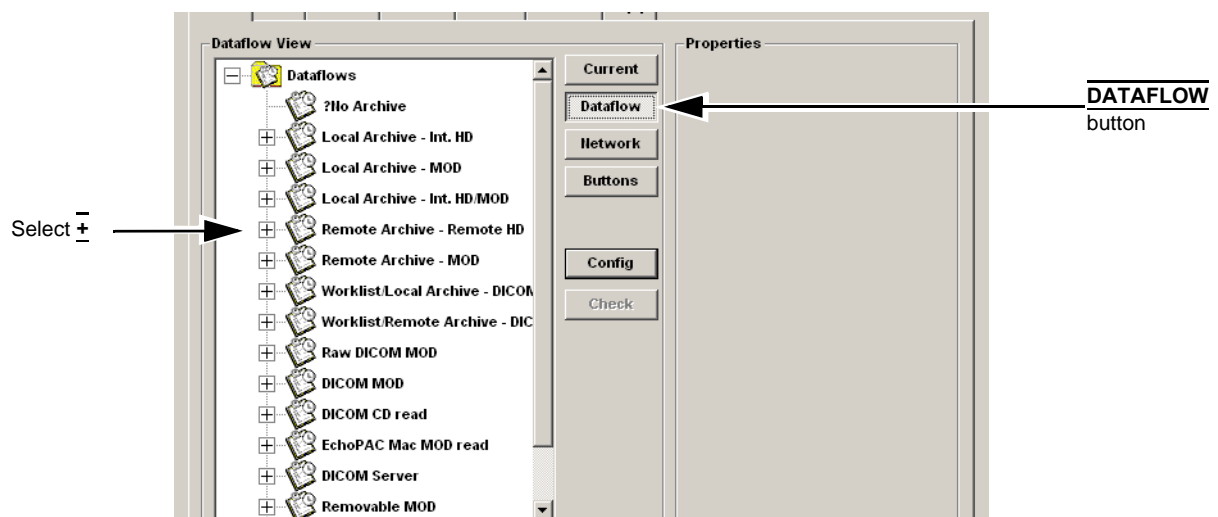

Figure 3-120 Pre-configured Data flows in Vivid 7
- 4.) Select the **DATAFLOW** button to see all available data flows, see Figure 3-120.